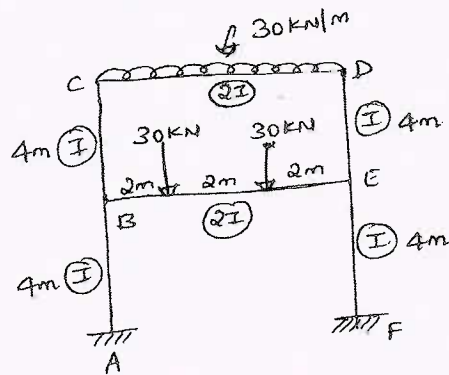

Fig.Q6
- 6 Analyze the given frame shown in Fig.Q6 using Kani's method. Draw BMD.